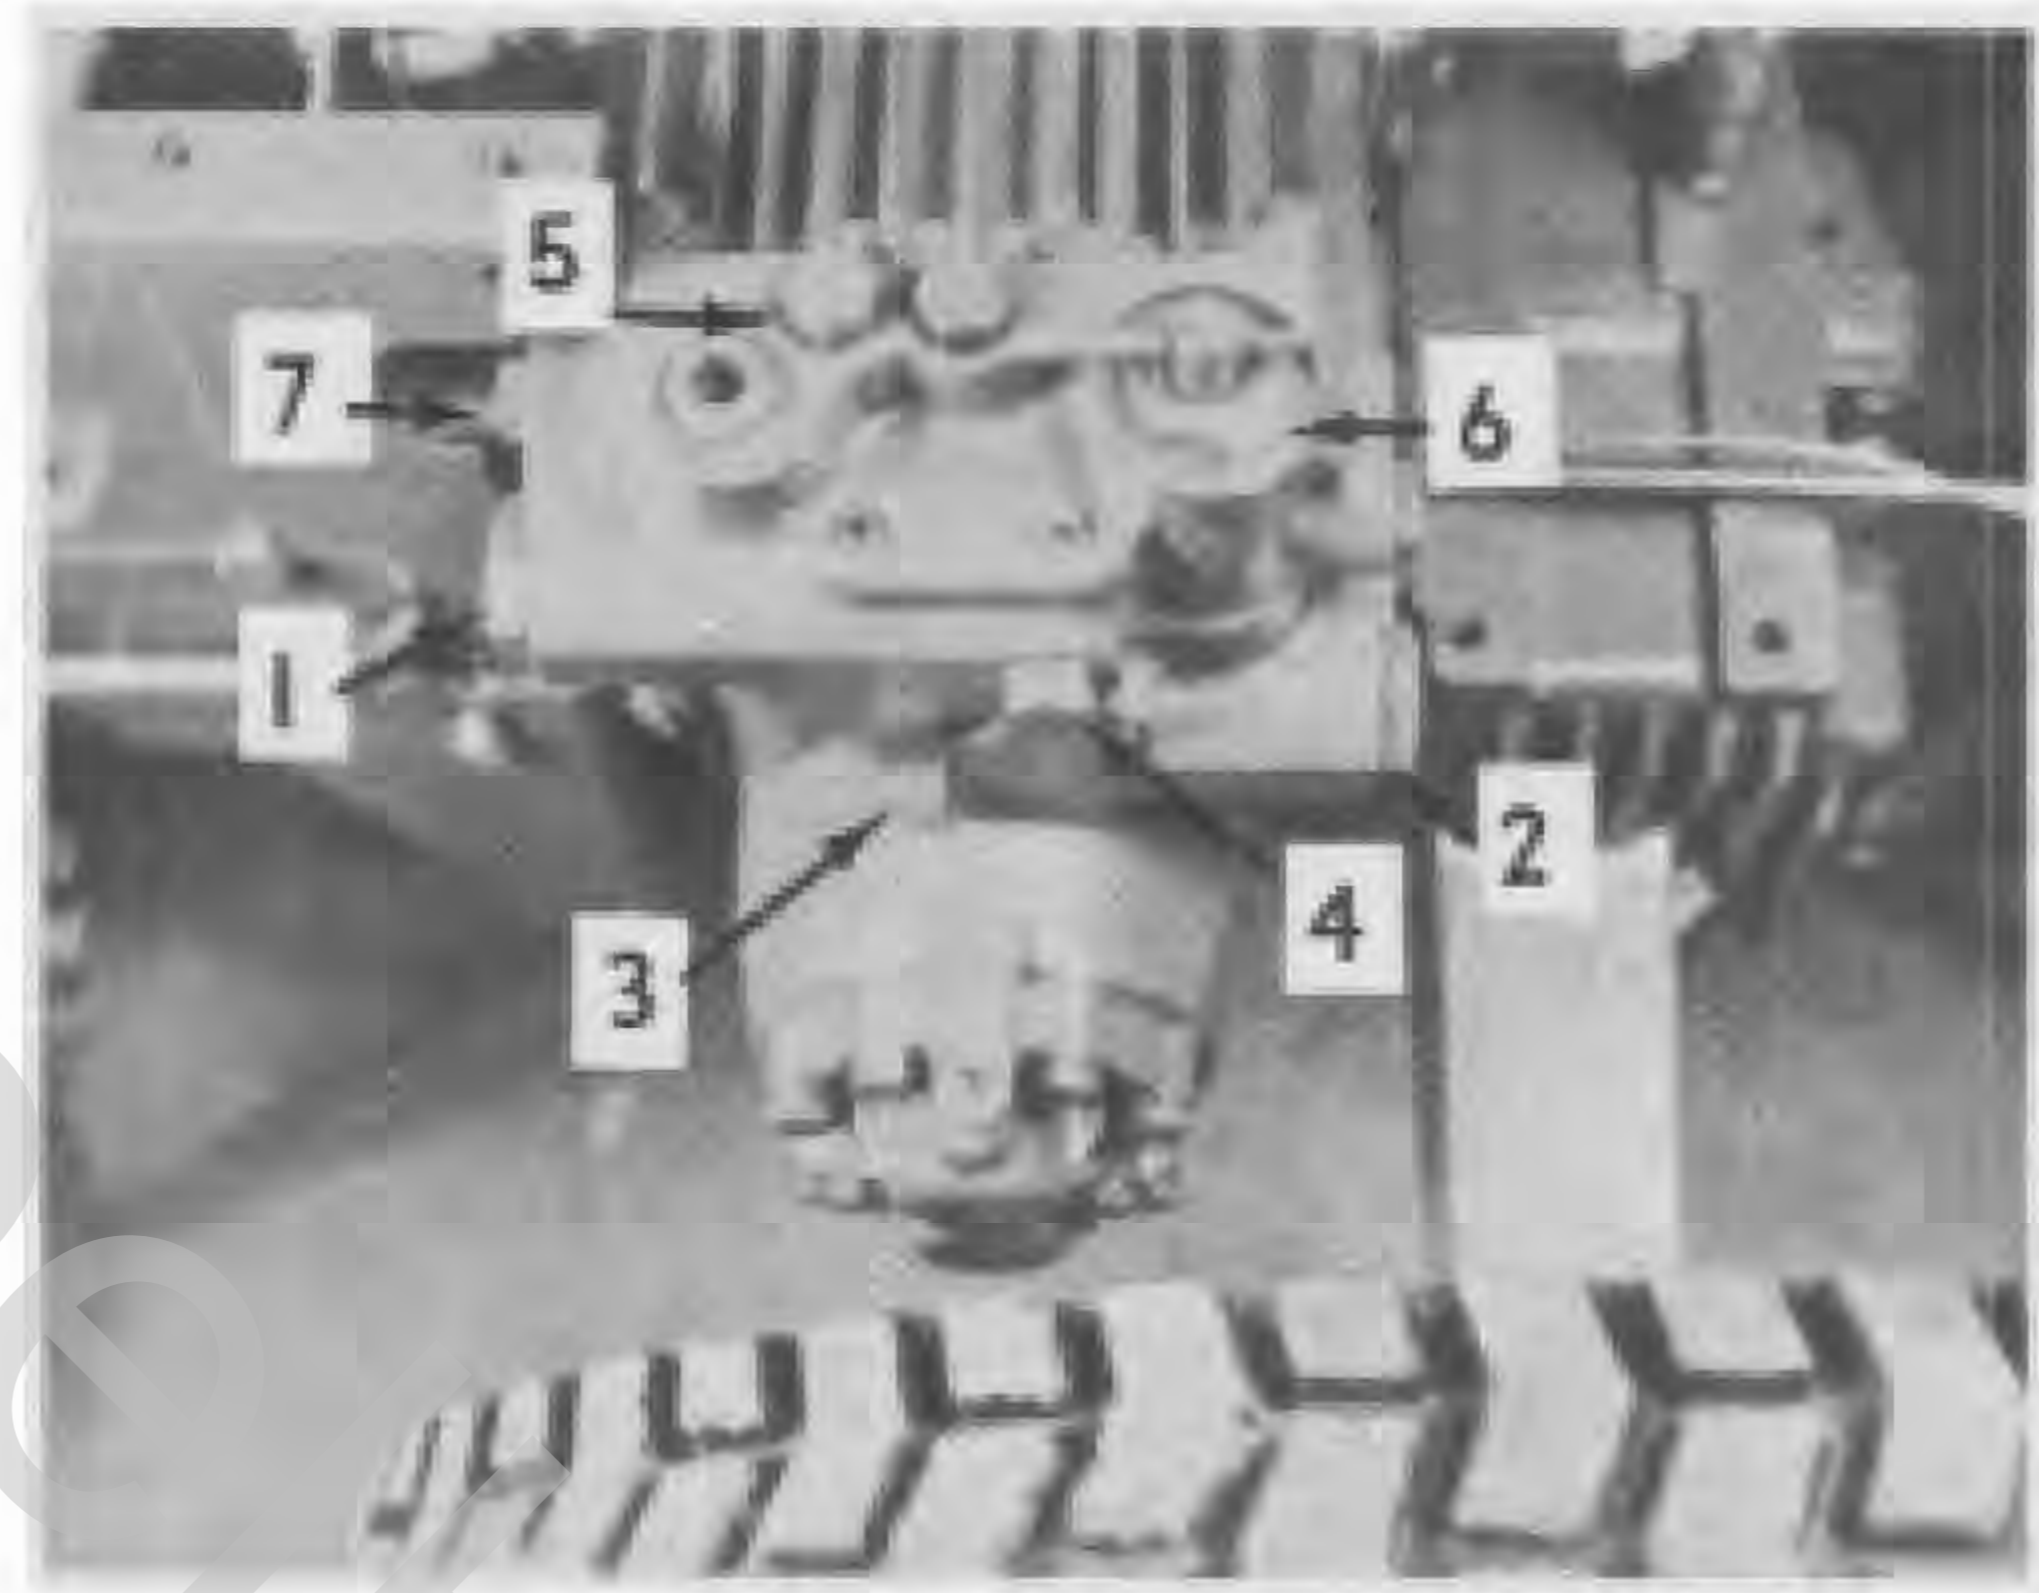

FIG. 90.
Remove the fender and tool box assembly to expose the center section of the Hydrogear as shown in Fig. 90. Thoroughly clean the center section of all dirt, clippings, etc. with a solvent that is not harmful to paint. Remove the drain plug at the bottom of the transaxle case and drain the fluid. Remove the oil filter for replacement.
Acceleration Relief Valves: Remove the forward dampening valve (item 2, Fig. 90) with a $1\frac{3}{16}$ " wrench on the hex head. Occasionally the acceleration valve piston and sleeve assembly (2 & 3, Fig. 91) remains on the dampening valve when removed. When this happens, separate them for inspection and cleaning.
Repeat this operation on the reverse acceleration valve assembly (1, Fig. 90).
Remove the reverse check valve "O" ring plug (4, Fig. 90) with a wrench on the $\frac{5}{8}$ " hex head. Remove the spring (9, Fig. 91) and valve (10, Fig. 91) using a magnet or long nose pliers if needed. Check the spring for distortion. Replace it if damaged. Remove and discard the "O" ring from the plug.
Clean the parts in solvent and coat them with type "A" automatic transmission fluid. Install a new "O" ring on the plug (4, Fig. 90) using care not to damage the ring on the screw threads. Slip the spring over the shoulder of the valve and install the assembly into its bore in the center section. Install the hex head "O" ring plug and tighten securely.
Repeat this operation on the forward check valve assembly (3, Fig. 90).
Remove the $\frac{5}{8}$ " hex head "O" ring plug (5, Fig. 90). Remove the spring (11, Fig. 91) and valve (12, Fig. 91) using a magnet to withdraw them from the bore.
Clean the parts with solvent and coat them with type "A" automatic transmission fluid. Install a new "O" ring on the plug (5, Fig. 90) using care not to damage it on the screw threads. Install the spring in the valve and insert the assembly, valve first, into its bore on top of the center section. Install the hex head "O" ring plug and tighten securely.
Back out the 1" hex shoulder plug (6, Fig. 90). Pull the valve assembly (14, Fig. 91) out of the bore. The force required will depend on the radial press of the sealing rings on the barrel of the valve.
Remove the $\frac{5}{8}$ " hex head "O" ring plug (7, Fig. 90). Remove the spring (16, Fig. 91) and valve (17, Fig. 91) using a magnet to withdraw them from the bore. Remove and discard the "O" ring from the plug. Check the spring for distortion. Replace if damaged.
Clean the parts with solvent and coat them with type "A" automatic transmission fluid. Install a new "O" ring on the plug (7, Fig. 90) using care not to damage it on the screw threads. Insert the spring in the valve and install the assembly, valve first, into its bore on the front of the center section. Install the hex head "O" ring plug and tighten securely.